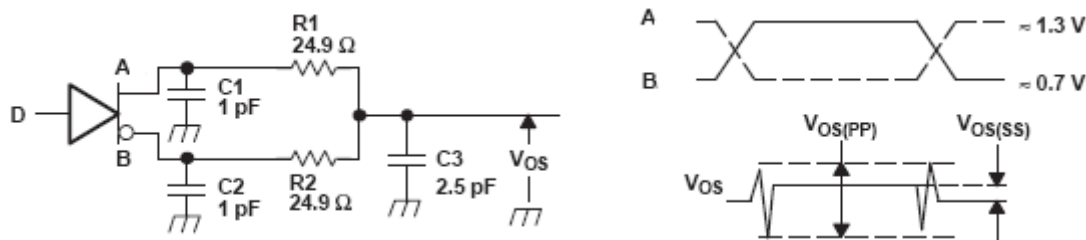

**Figure 3. Driver Voltage and Current Definitions**
4. See Figure 3. DC Measurements reference.